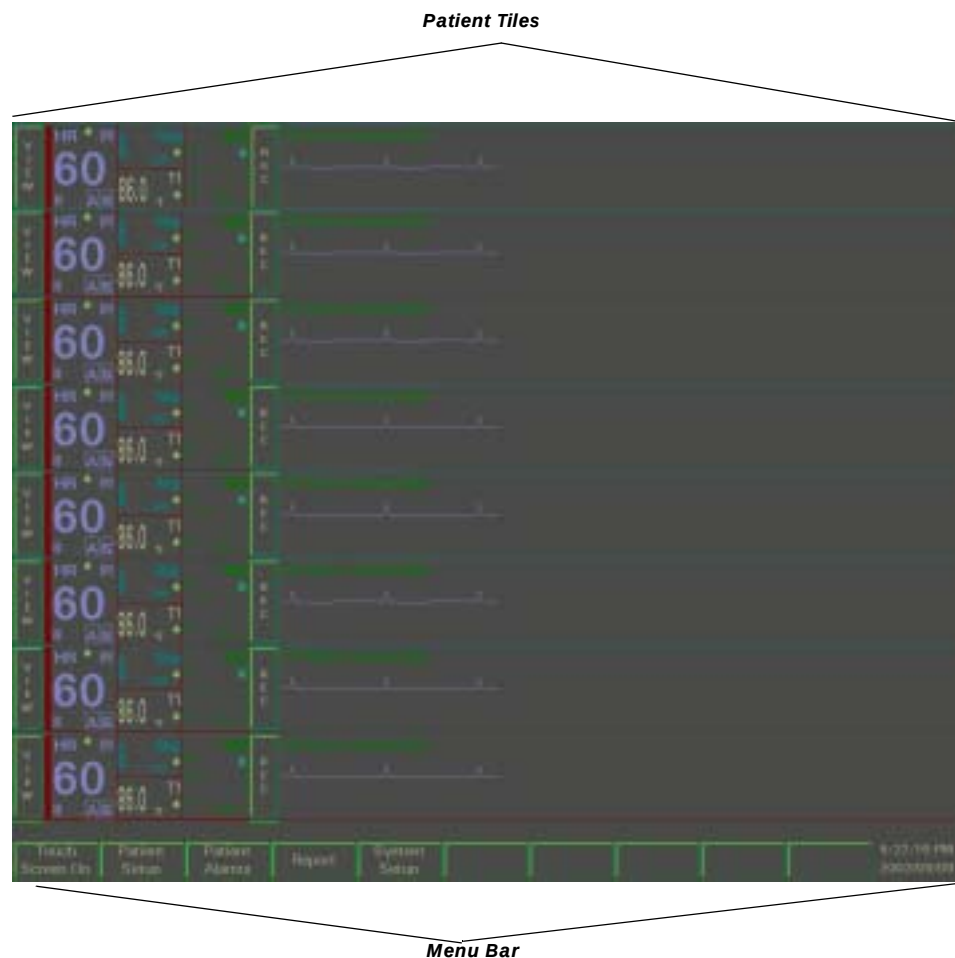
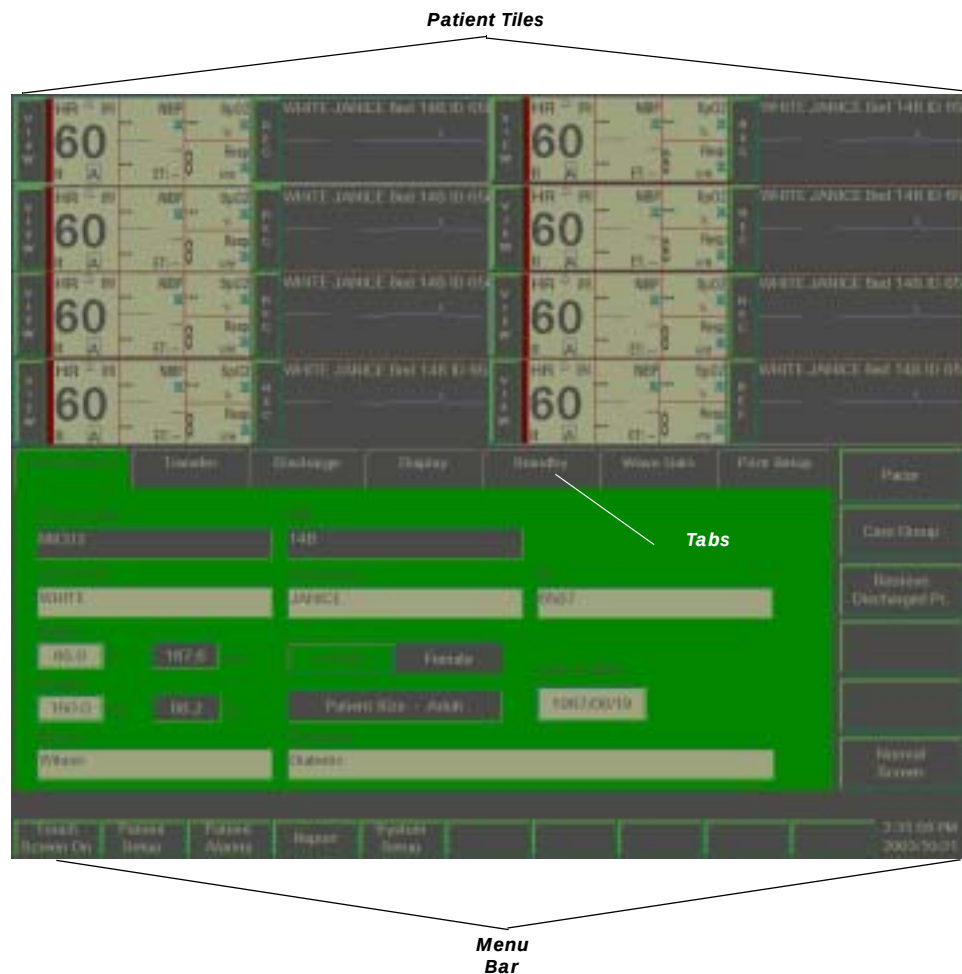

FIGURE 2-1 Full Screen Display
FIGURE 2-2 Split-Screen Display
The full screen display (FIGURE 2-1) includes patient tiles for viewing patient data and a menu bar for navigating the system.
The Panorama system uses a split-screen display (FIGURE 2-2) to allow users to simultaneously enter patient information, and monitor patient data. The top half of the screen displays patient data, while the bottom half of the screen is converted to a work space for entering and modifying patient information.
- Patient Tiles (FIGURE 2-1 / FIGURE 2-2)
- Menu Bar (FIGURE 2-1 / FIGURE 2-2)
- Tabs (FIGURE 2-2)